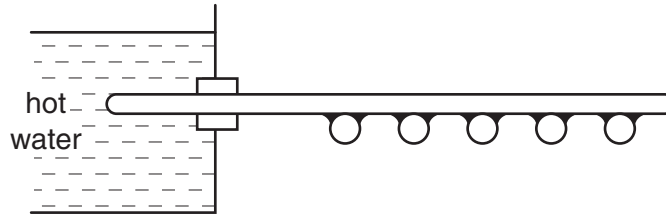

Fig. 3.2
- (d) The student is asked to suggest an improvement to the experiment. He suggests placing several peas along each rod, as shown in Fig. 3.2.